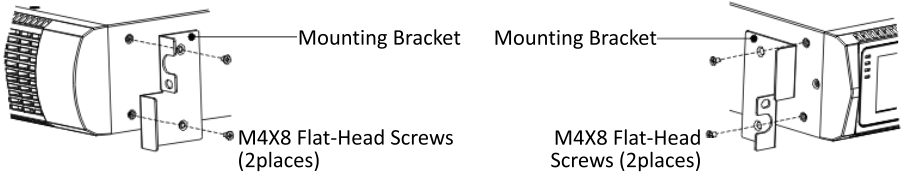

FIG. 4 Installing the Mounting Brackets
9. Align the mounting brackets with the screw holes on each side of the UPS and fix with the supplied M4×8 flat-head screws (see FIG. 4)